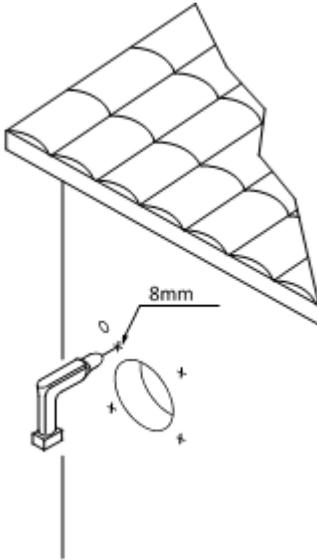

Fig 4
2. Cut out cable & ducting entry holes. Drill $\varnothing 8\text{mm}$ holes at the 4 screw hole positions (Fig 4).